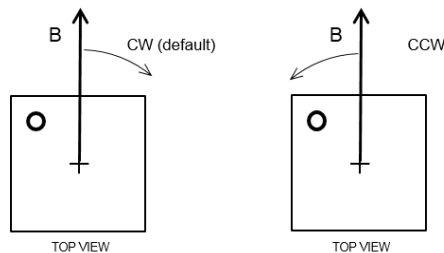

Figure 42: Positive Rotation Direction of the Magnetic Field. B indicates the field direction on the rotation axis
By default, when looking at the top of the package, the angle increases when the magnet rotates clockwise (CW) (see Figure 42). The rotation direction can be changed by setting the RD field in Register 16 (see Table 19).